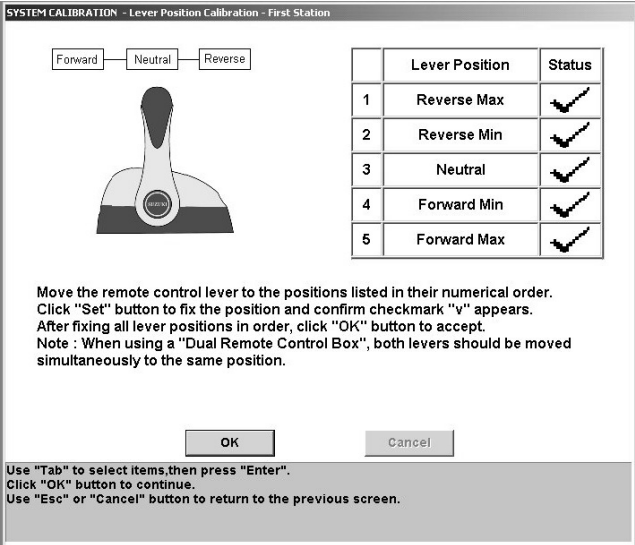

Fig.95
8. When all the lever positions have been registered, return the lever to the neutral position. (Fig.95)